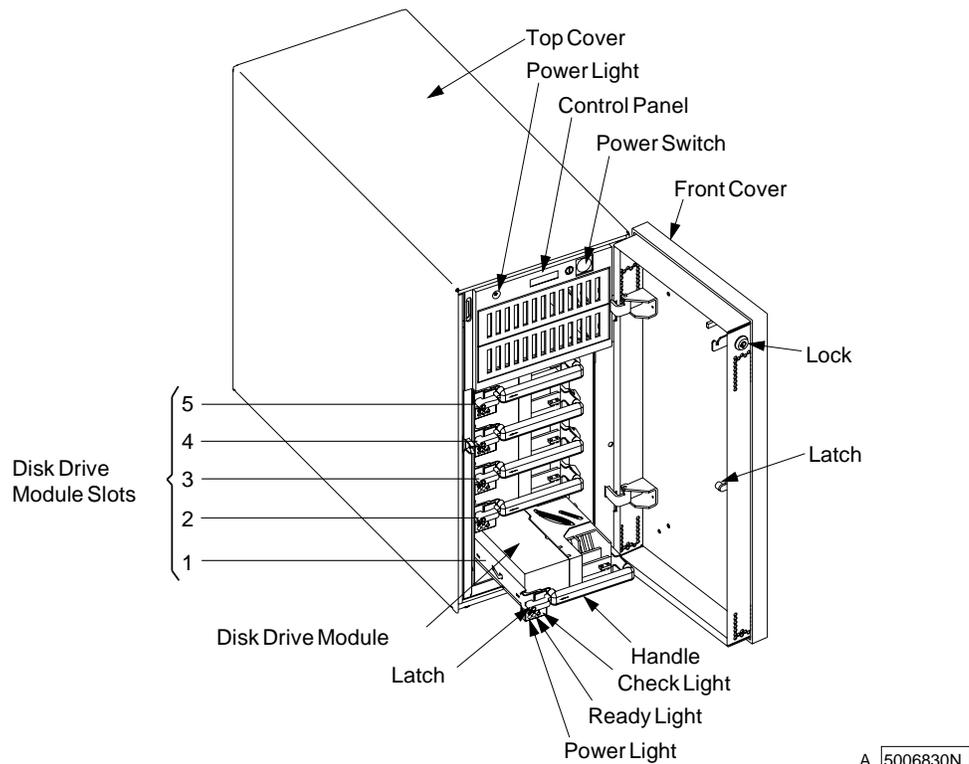

Figure 3-11. Disk Drive Modules in the 7131 Storage Tower
This procedure describes how to remove and replace a disk drive module when the power to both the host system and the 7131 Storage Tower is on or when the power to the 7131 Storage Tower is either On or Off. The disk drive module is installed in any of the five slots. See Figure 3-11.
- 8** Pull each disk drive module out, keeping it straight to prevent damage (note the slot position of each disk drive and/or dummy disk drive module, as they will be reinstalled in the same slot positions later in this procedure). See Figure 3-11 on page 3-12.